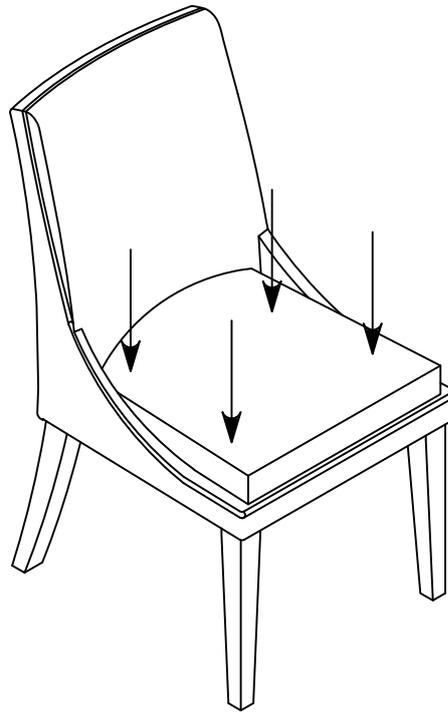

Fig.3
Step 3: Place the loosely assembled chair on a hard flat surface and apply gentle downward pressure on the seat. As shown on Fig.3. Once the chair is balanced and leveled, fully tighten all bolts.